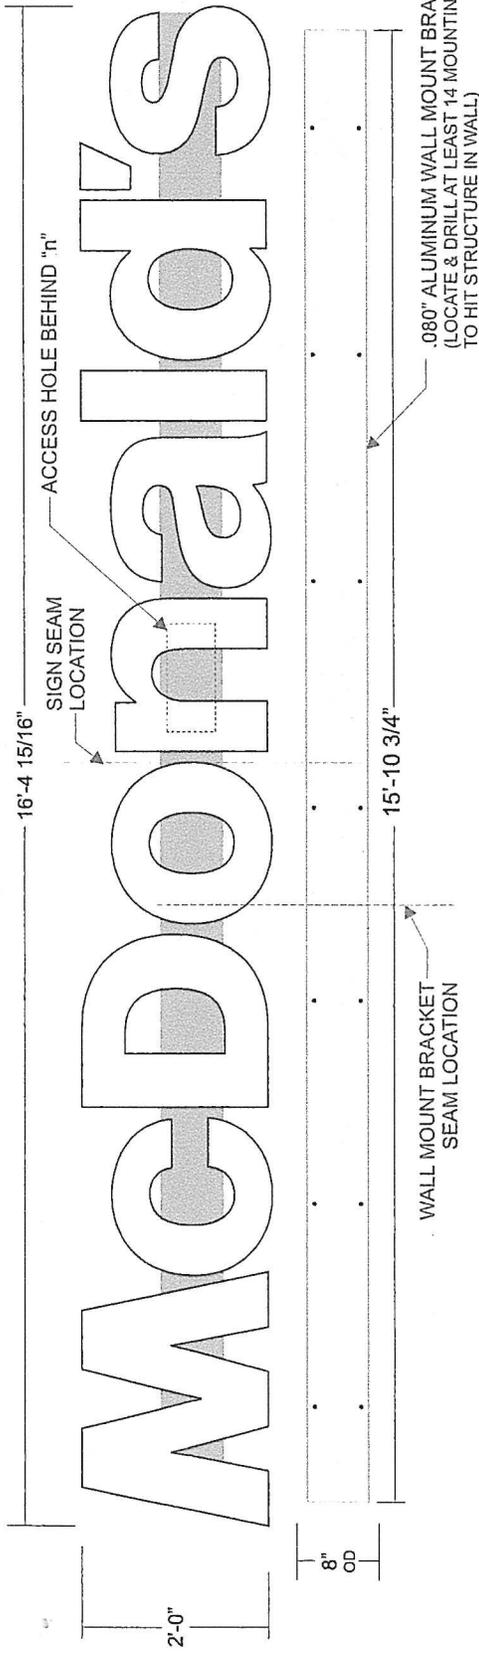

FIGURE 1
4. Drill 7/16" holes in the mounting bracket as needed to hit structure in wall. At least 14 required - 6 in the "Mcdo" mounting bracket and 8 in the "nalds" mounting bracket. (see figure 1).